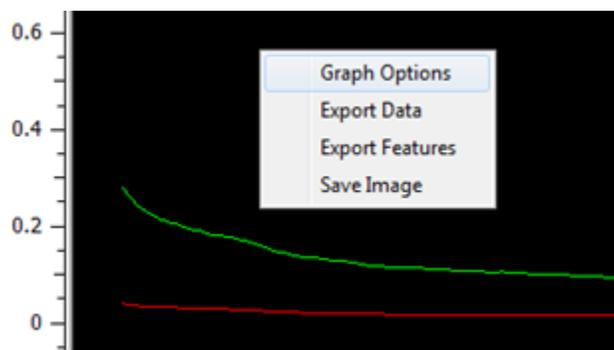

Figure 9: Selecting the Graph Options Menu
- 4.7.3. The Profile Graph can be changed by right clicking on the plot and selecting *Graph Options* (Figure 9).